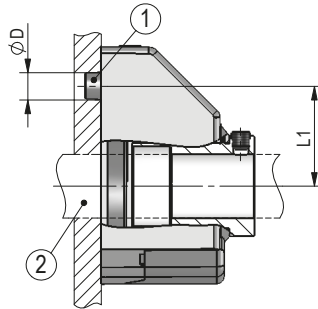
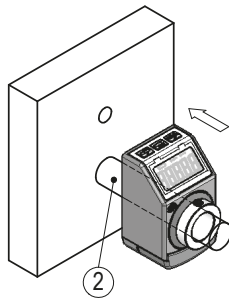
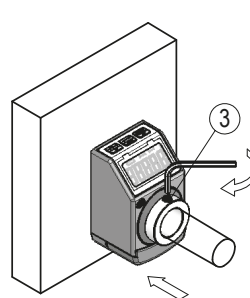

Fig. 1: Mounting dimensions
Fig. 2: Mounting
Fig. 3: Fastening torque for headless pin
- ▶ Ensure a low shaft and angle offset between shaft and accommodation bore by applying appropriate manufacturing methods (see Fig. 1 + Tab. 1).
#### Preparing mounting (Fig. 1, Fig. 2, Fig. 3):
### Mounting (Fig. 1, Fig. 2, Fig. 3):